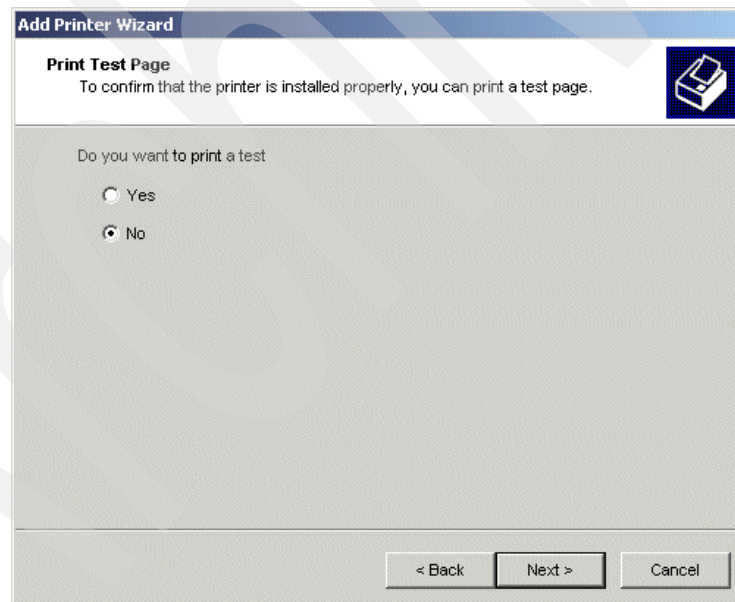

Figure 129. Printing a test page
11. Click **Next** to continue with the Print Test Page panel shown in Figure 129.